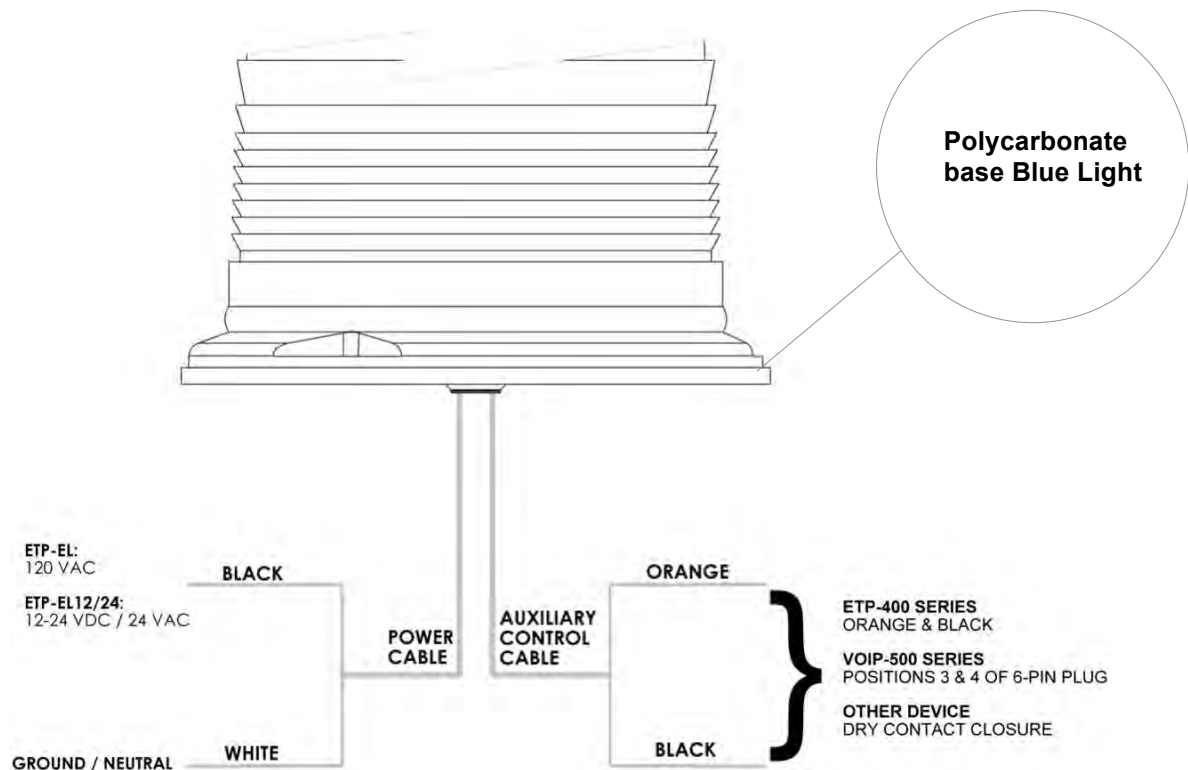

Figure 1: Electrical connections to the ETP-EL and ETP-EL12/24 (polycarbonate base) Blue Light
7. The 120VAC model **ETP-EL** (polycarbonate base) Blue Light can be connected to the 120VAC output voltage of the power source. If using the **ETP-EL12/24** (polycarbonate base) Blue Light, connect the power cable to either the 12-24VDC or the 24VAC output voltage of the power source (shown in **Figure 1**).